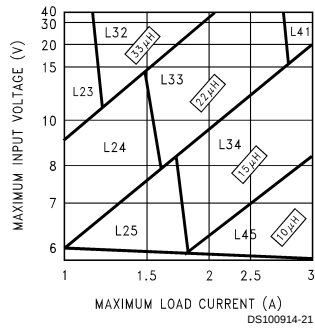
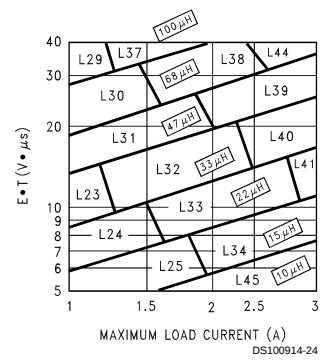

FIGURE 3. LM2676-3.3
FIGURE 6. LM2676-ADJ
Step 3: Determine the inductor required by using one of the four nomographs, *Figure 3* through *Figure 6*. Table 1 provides a specific manufacturer and part number for the inductor.
Step 5: Determine an input capacitor from Table 4 for fixed output voltage applications. Use Table 2 to find the specific capacitor type. For adjustable output circuits select a capacitor from Table 2 with a sufficient working voltage (WV) rating greater than $V_{in\ max}$, and an rms current rating greater than one-half the maximum load current (2 or more capacitors in parallel may be required).
Step 3: Use the nomograph for the 3.3V device, *Figure 3*. The intersection of the 16V horizontal line ($V_{in\ max}$) and the 2.5A vertical line ($I_{load\ max}$) indicates that L33, a 22 μ H inductor, is required.
Step 3: To use the nomograph for the adjustable device, Figure 6, requires a calculation of the inductor Volt•microsecond constant ($E \cdot T$ expressed in $V \cdot \mu s$) from the following formula:
Using Figure 6, the intersection of 27V•μs horizontally and the 2A vertical line ($I_{load\ max}$) indicates that L38, a 68μH inductor, should be used.
Important Note: When using the adjustable device in low voltage applications (less than 3V output), if the nomograph, Figure 6, selects an inductance of 22μH or less, Table 6 does not provide an output capacitor solution. With these conditions the number of output capacitors required for stable operation becomes impractical. It is recommended to use either a 33μH or 47μH inductor and the output capacitors from Table 6.